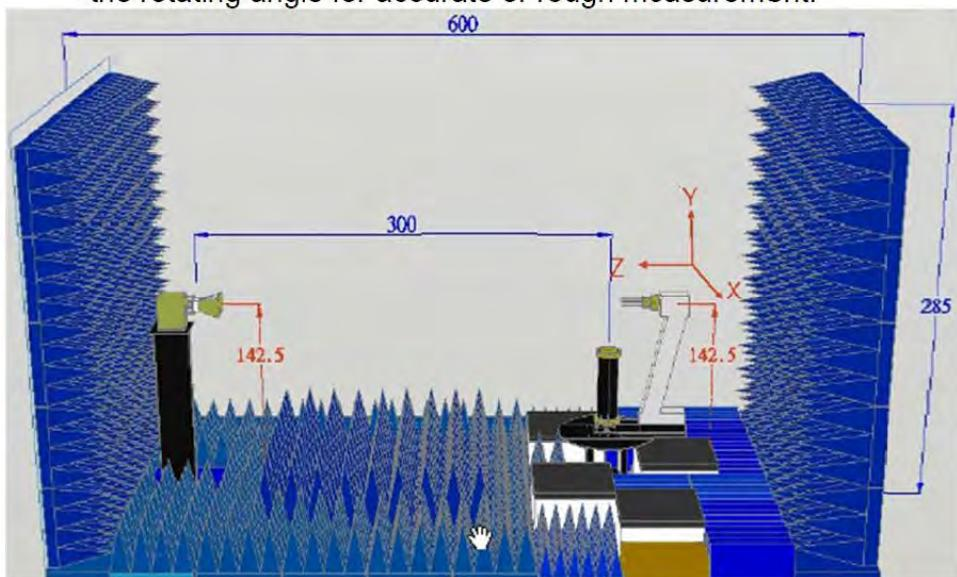

Fig.2 The interior components of the anechoic
(1) The anechoic chamber is a far-field measurement system with size of 3.25M\*2.84M\*6.4M. The quiet zone of this chamber shall be greater than 70cm @ 0.9GHz, 50cm @ 1.8GHz, 44cm @ 2.4GHz, 28cm @ 5.8GHz, 16cm @ 18GHz.
(2) Fig.2 shows the interior components of the anechoic chamber. The antenna standard antenna as probe and antenna under test is 3M. The antenna under test is fixed on two step rotators. We control the rotating angle for accurate or rough measurement.